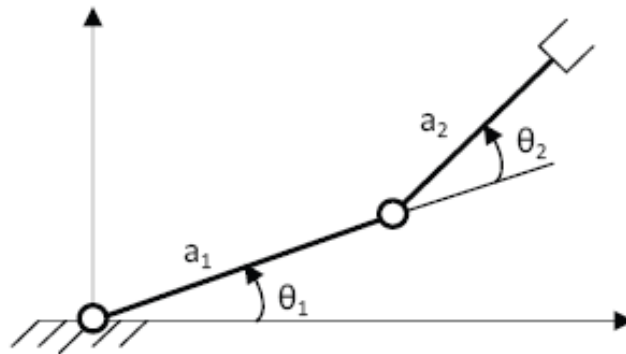

Figure-1
a) Compute the Jacobian matrix for the two link planar arm shown in Figure-1. 10 M